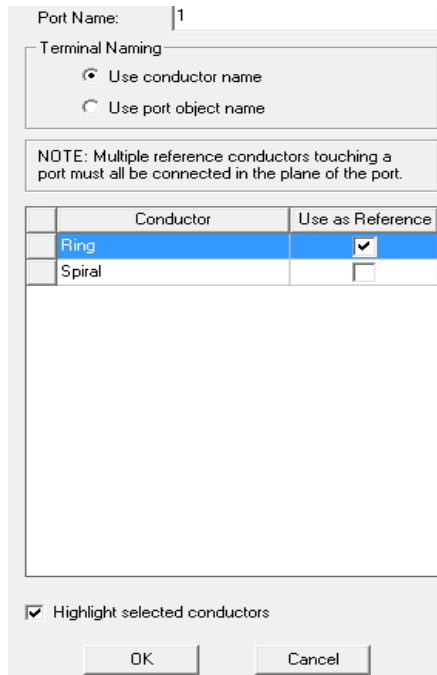

Figure 46. Reference Conductor Terminal dialog box
- 3** Set the options as shown in Figure 46 and click **OK**.
- 3 Set the rest of the options as in Figure 46 and click **OK**.